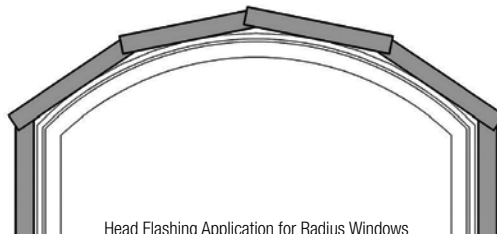
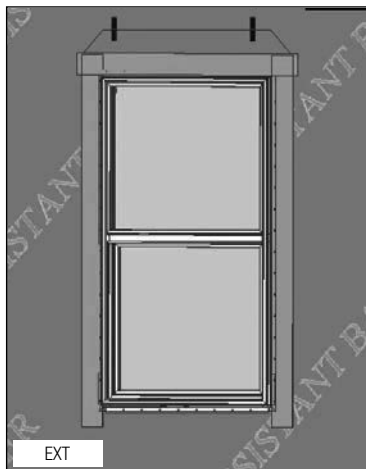

FIG. 16
FIG. 15
- C) Cut and apply head flashing. The head flashing should run slightly past the edge of the side flashing as shown in Fig. 15. For radius windows, refer to Fig. 16.